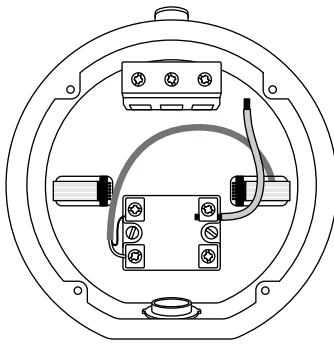

Figure 5.1
4) Your MODEL 1X will have a short length of wire already installed into one of the controller terminals. The other end is INTENTIONALLY disconnected. Insert an appropriate strain relief fitting into the electrical opening on the MODEL 1X as shown in Figure 5.1.